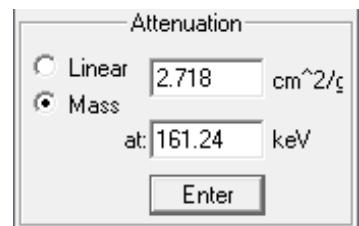

Figure 149. Adding a New Constituent to the Database.
- 5) Now, in the **Attenuation** section of the sidebar (Fig. 149), enter the energy/attenuation pairs for as many energies as necessary to obtain a good attenuation function. When entering the X-ray edge, use energy values that are close but not equal, e.g., 13.420 and 13.421 keV.